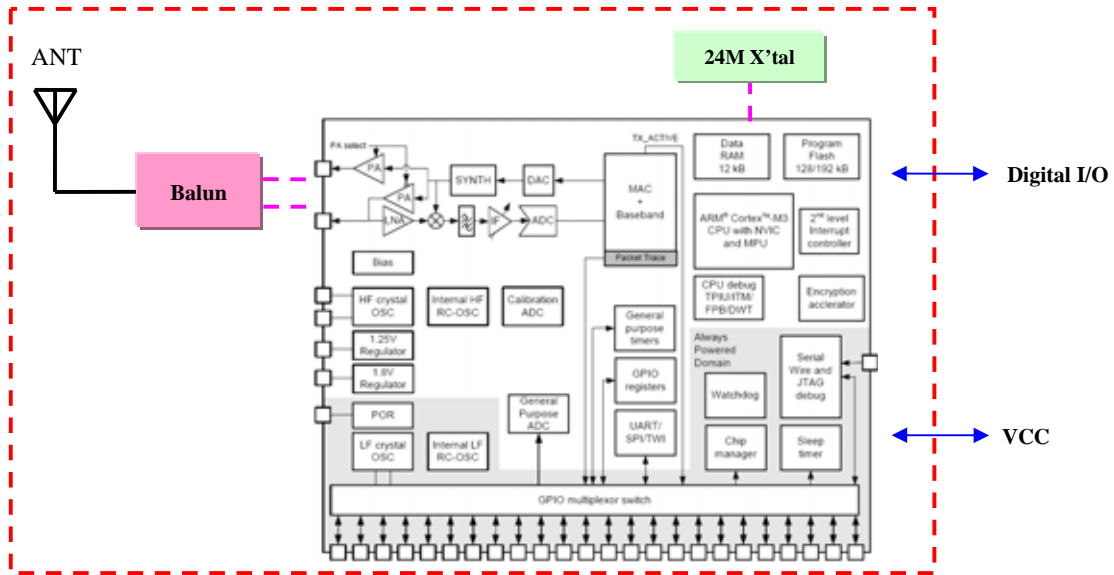

Figure 3-1: DFZM-E722x Block Diagram
- The low power module option has a capability of +8dBm output power at the antenna (see Figure 3-1).